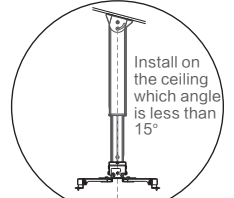

figure 5
- 2 Connect the GPCN Main Bar Overview to the fixation (screws of accessory ④). Store the power wire, and then fasten the front and back screws of main bar. Finally, install the ornament board of main bar as figure 4 and figure 5.